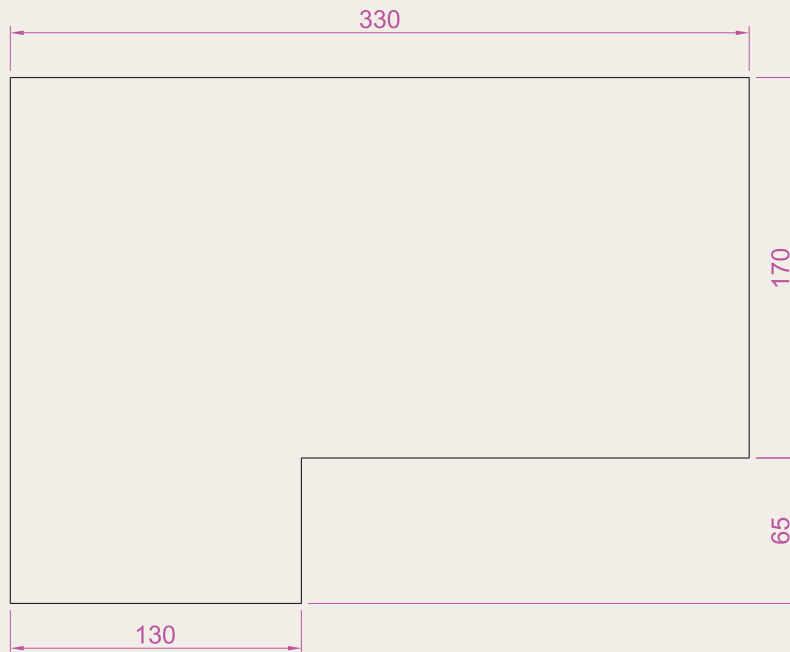
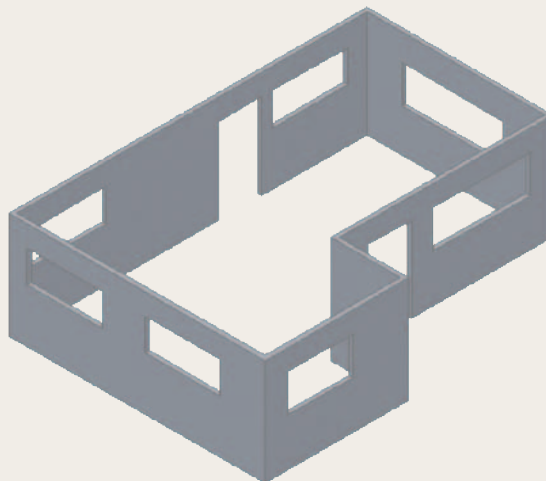
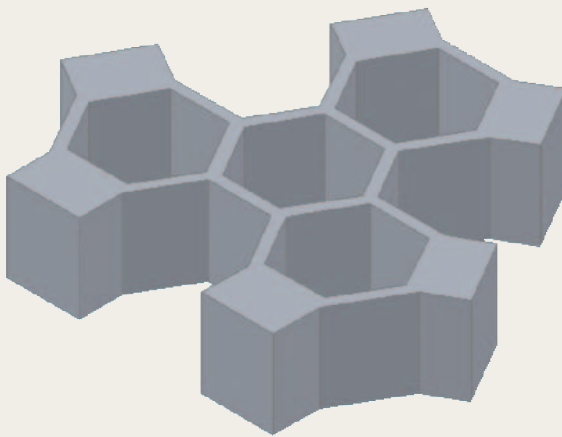

Fig. 12.45 Exercise 1 – outline for polyline
Fig. 12.46 Exercise 1
Fig. 12.48 Exercise 3
1. Figure 12.45 shows the pline outline from which the polysolid outline of Fig. 12.46 has been constructed to a height of **100** and **Width** of **3**. When the polysolid has been constructed, construct extrusions can then be subtracted from the polysolid. Sizes of the extrusions are left to your judgement.
3. Figure 12.48 shows the 3D model from Exercise 2 acted upon by the **Presspull** tool, which can be called by entering **Presspull** at the command line. With the 3D model from Exercise 2 on screen and using the **Presspull** tool, construct the 3D model shown in Fig. 12.46. The distance of the pull can be estimated.